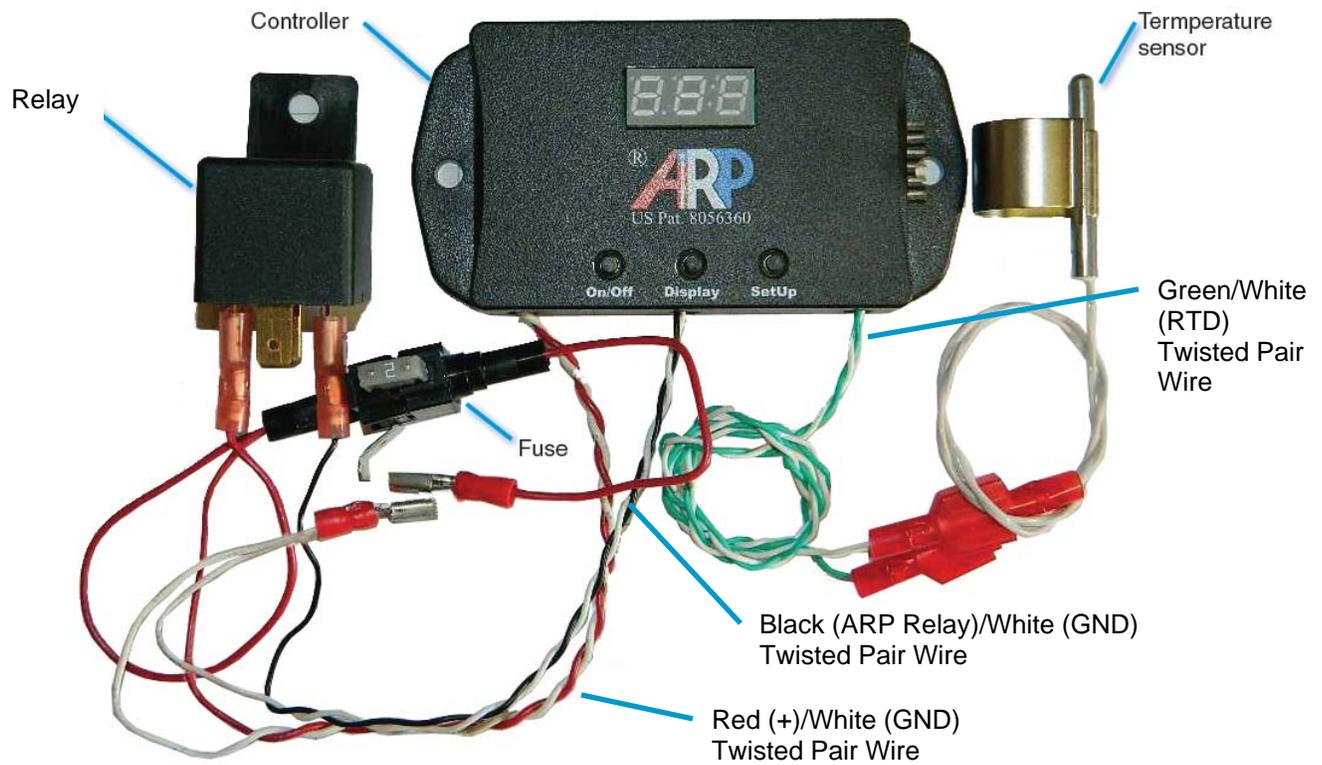

Fig. 1 ARP Control Kit
The ARP is not complicated. The system has the following components seen in Fig. 1.
Fig. 9 shows three 1/4" holes drilled near to the bottom edge of the control housing. This allows any water to drain and the wires to be routed as seen in Fig. 1 or 8 above.
2. Identify the ground location of your refrigerator. By viewing Fig. 11 & 12, the typical power and ground terminals are seen. Connect the 2 white ground wires identified in Fig. 1 to the ground of your system. You can use the ground screw terminal, or another similar ground.
Note: The white wire of this pair is not a ground wire. The RTD wires are not polarized; they may be installed in either position on the sensor, please see Fig. 1.